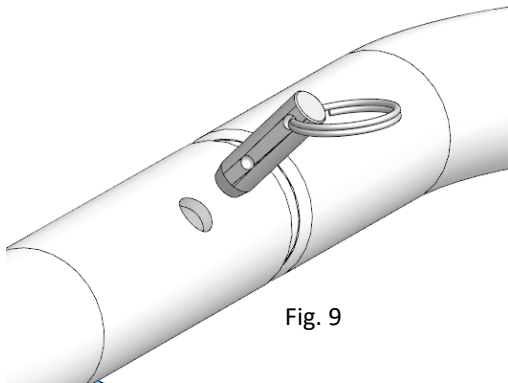
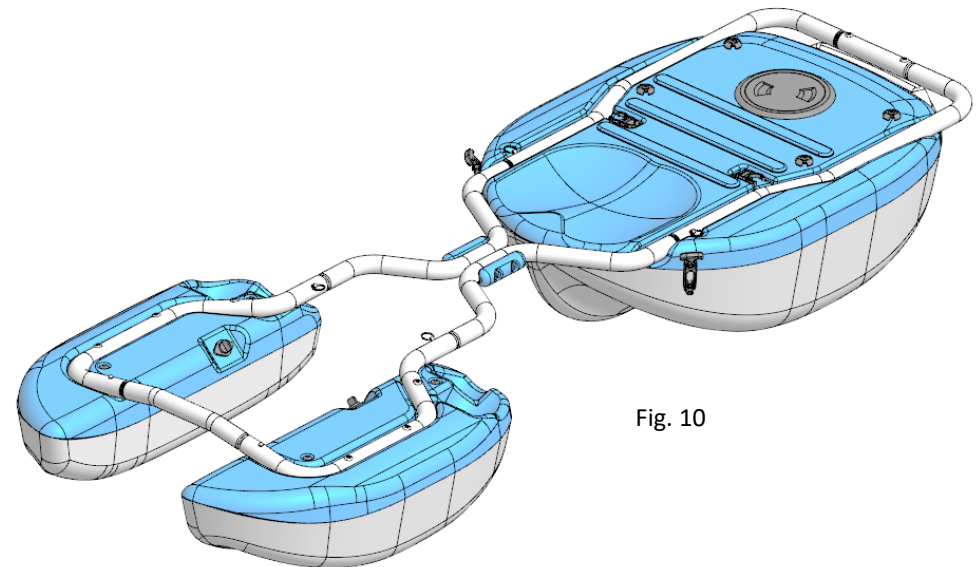

Fig. 9
Fig. 10
- 5) With the two quick release pins pulled out of the frames of the **FRONT FLOATS** (fig. 9), assemble the **MIDFRAME** to the **FRONT FLOATS** by inserting the reduced ends into the frames of the **FRONT FLOATS** and secure it with the two quick release pins attached to the **BACK FLOAT**. (fig.10)